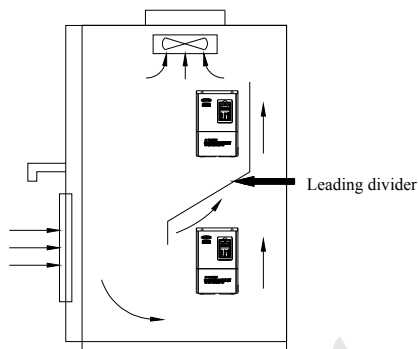

Fig.3-2 Mounting of multiple inverters
- (3) When installing multiple inverters up and down, leading divider must be applied between them, see Fig.3-2.